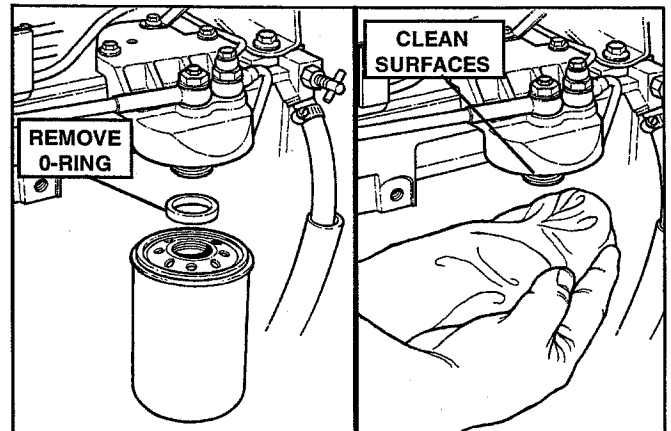

FIGURE 4.69
4. Remove "O"-Ring from filter head. See Figure 4.69.
5. With a clean, dry cloth, clean filter head mounting surface for the filter. See Figure 4.69.